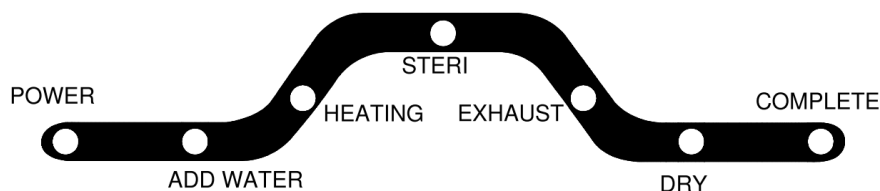

Figure 12
- F. Press the START Button , and the sterilizer will automatically run through the selected program. The current progress of the sterilization cycle is indicated by the illuminated LED on the Process Status Indicator (Figure 12).